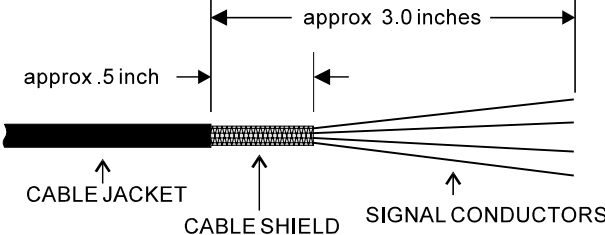

Figure 2
- 1). Strip the sensor cable as shown in Figure 2.